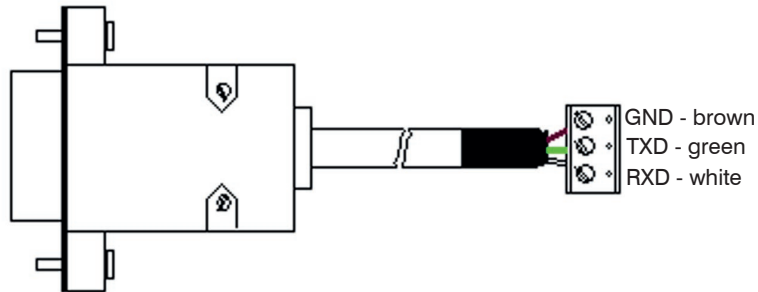

Fig. 17 Pin assignment RS232
• **i** Make sure the wiring is correct according to the drawing and designation printed on the interface board, see Fig. 17.